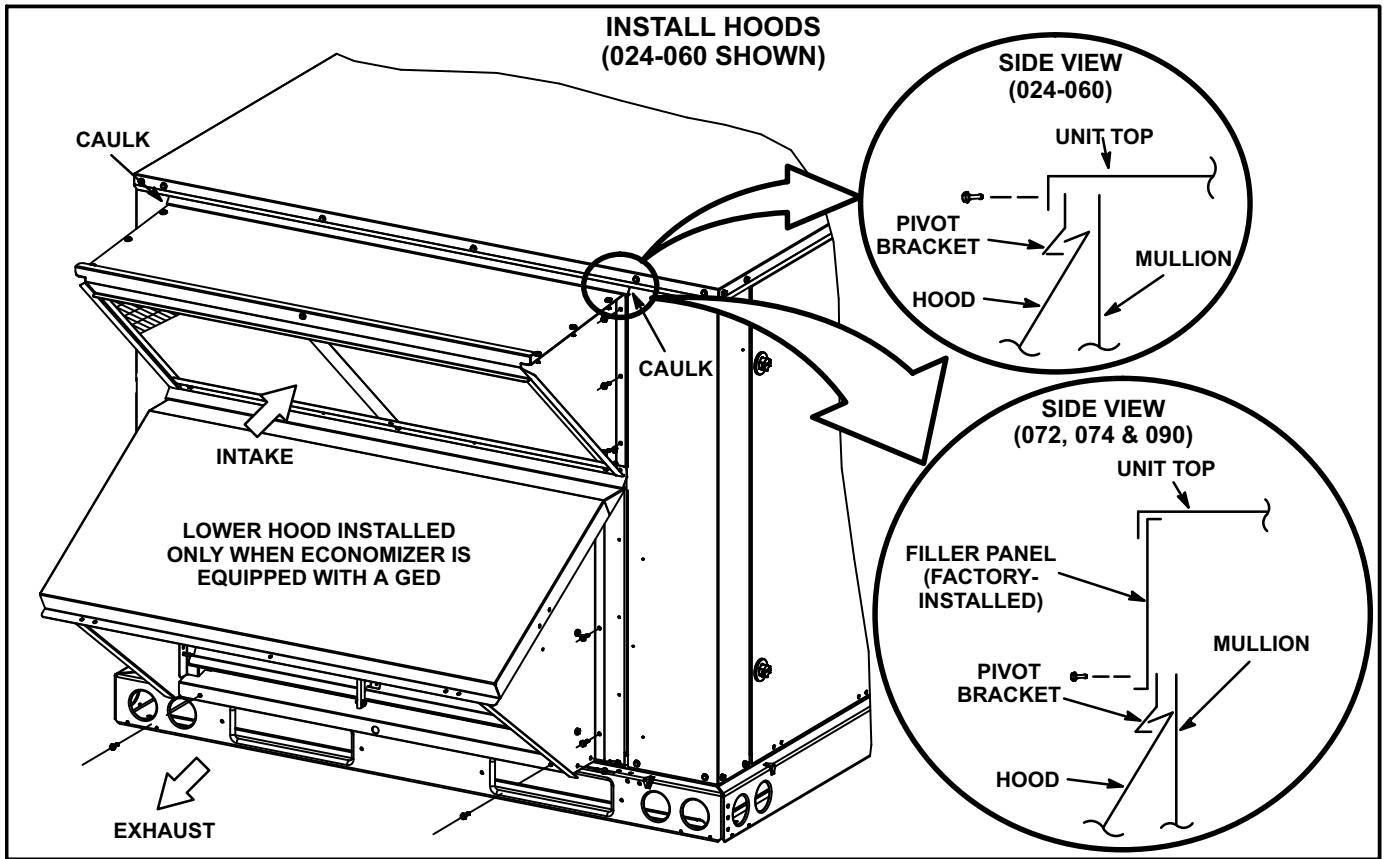

FIGURE 10
- 4- Install hoods on unit as shown in figure 10.